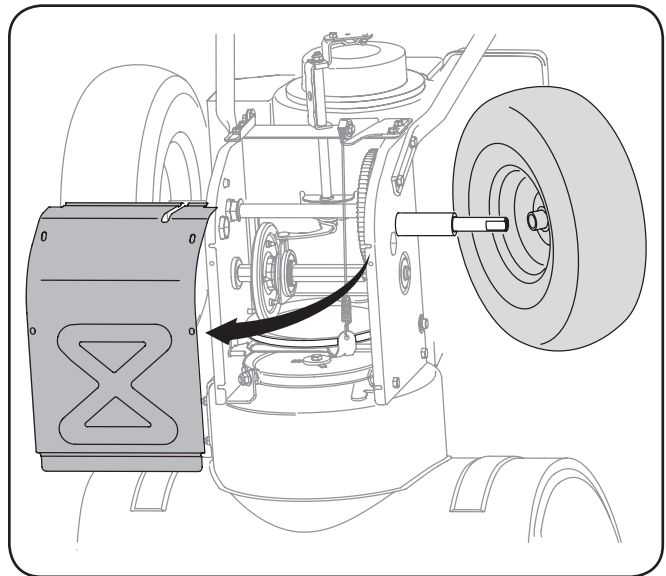

Figure 7-8
4. Remove the frame cover from the underside of the snow thrower by removing the self-tapping screws which secure it. Remove the right-hand wheel by removing the screw and bell washer which secure it to the axle. See Fig. 7-8.